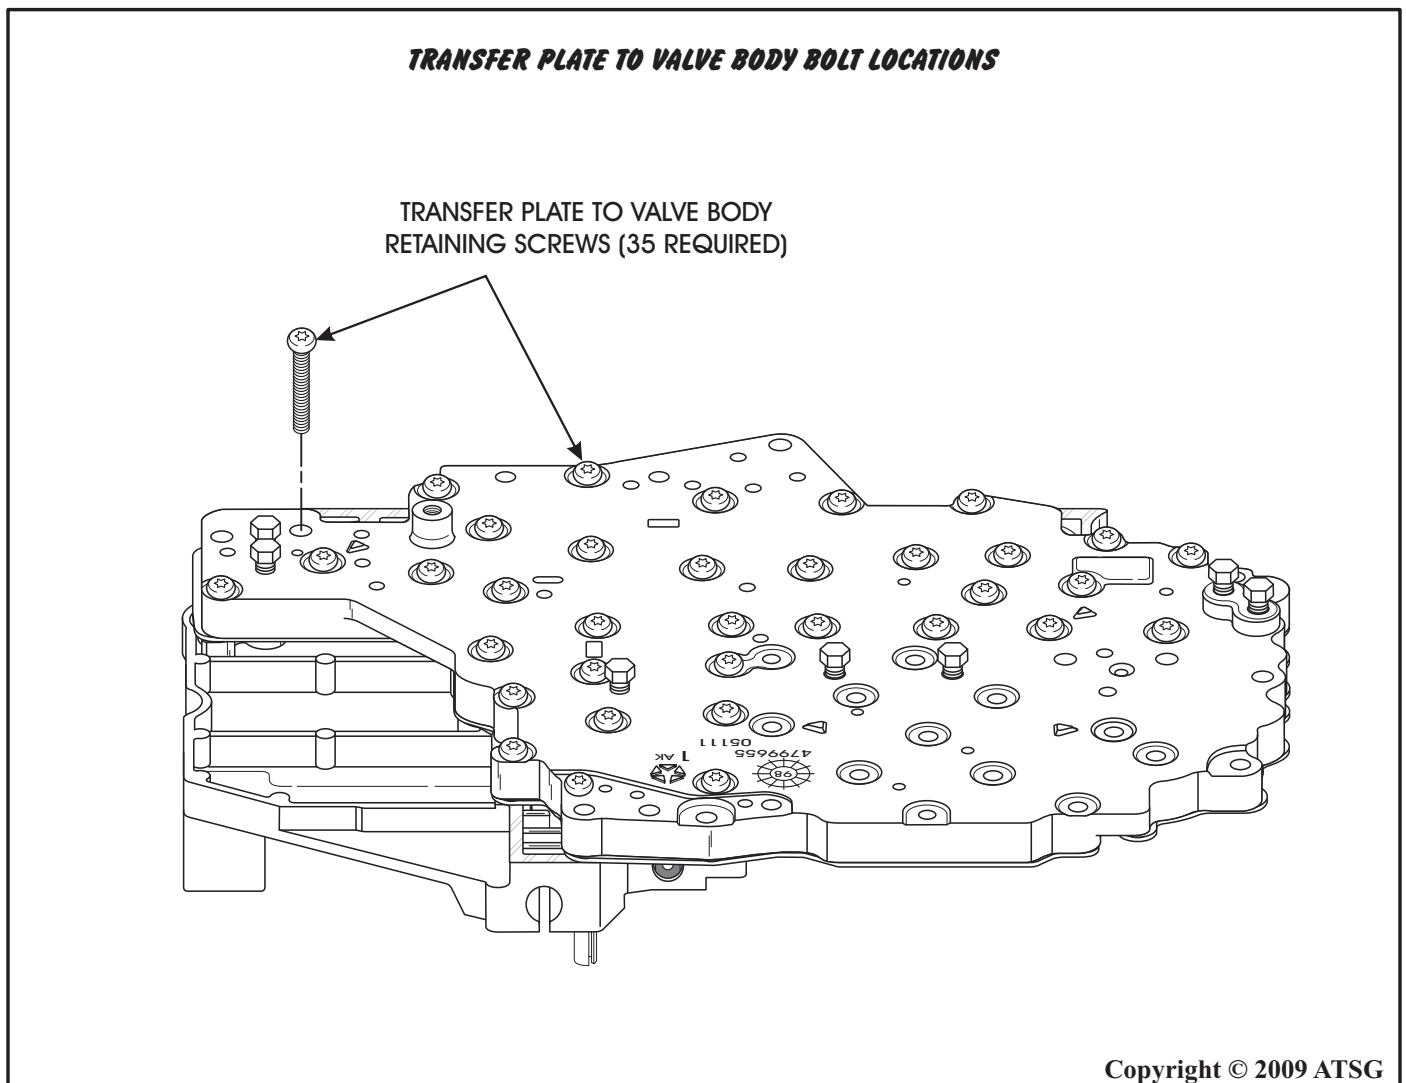

Figure 102
12. Install the 35 valve body to transfer plate bolts in the locations shown in Figure 102.